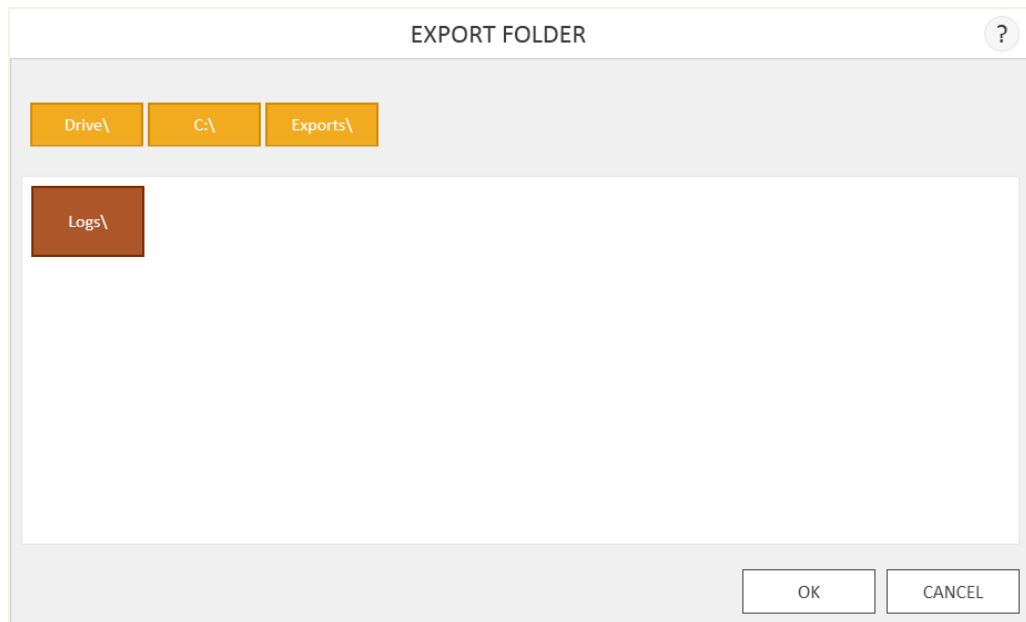

Figure 29. Export Folder' screen. From this screen you can set the folder location to which all displayed audit records will be exported.
2. Using the Yellow and Red rectangle buttons you can select the folder location (Figure 29) where the method run reports will be saved.